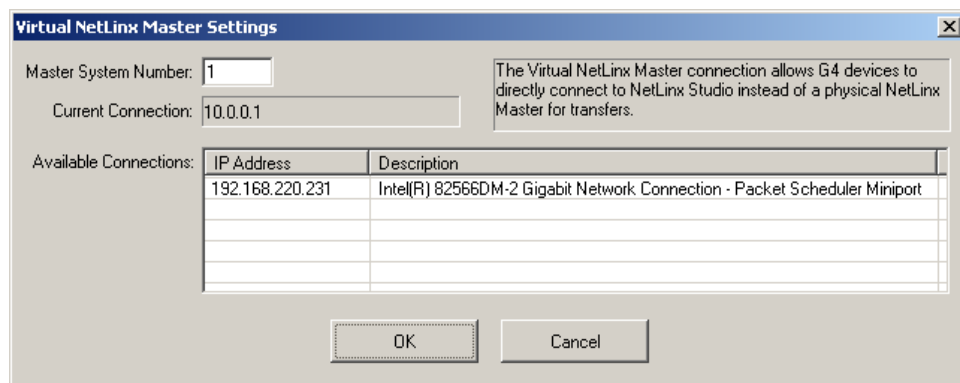

FIG. 35 NetLinX Studio - Virtual NetLinX Master Settings dialog
5. Click the **Edit Settings** button to open the *Virtual NetLinX Master Settings* dialog (FIG. 35).